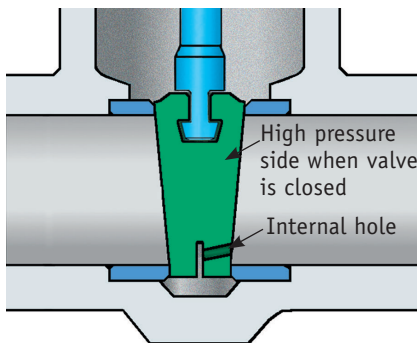

Figure 9
- A pressure relief hole drilled through the “pressure side” of the body or wedge/disc half into the valve’s center cavity, thus relieving overpressure to that pressure side. This effectively makes the valve unidirectional in its sealing capability (Figure 9).